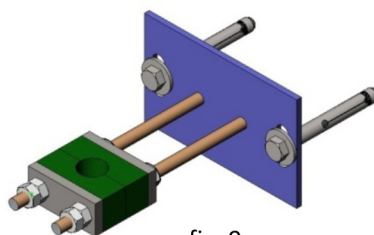

fig. 9
- A stem support-guide is recommended (fig. 9) every 1.5 m.